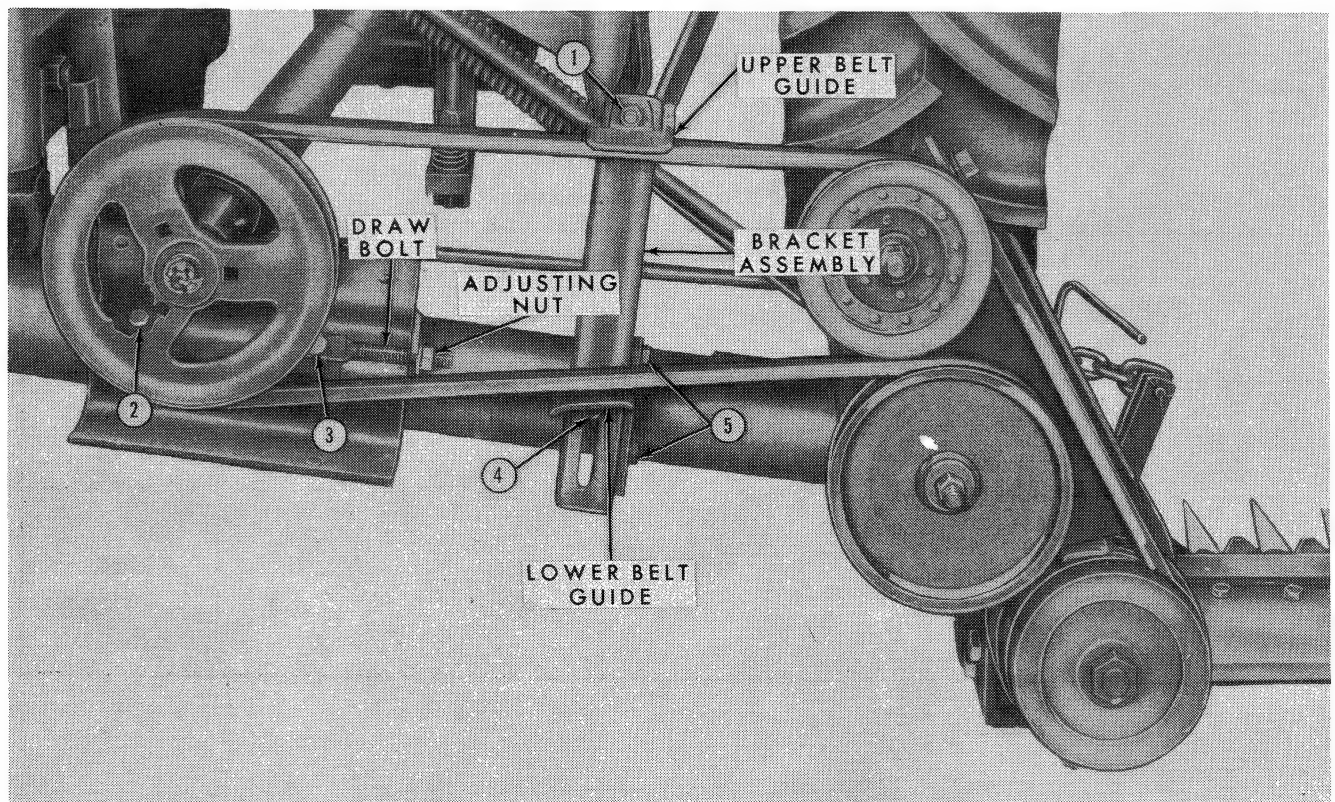

Figure 17
1. Loosen the nuts on bolts (2) and (3), Figure 17.
2. Turn the adjusting nut on the draw bolt, Figure 17, until the proper tension is obtained.
3. Tighten the nuts on bolts (2) and (3).
5. Secure the lower guide 1/8-inch from the belt and parallel to the belt with the bolt (4).
The belt guides, Figure 17, must be properly adjusted to prevent the belt from "slapping" or binding on the guides. To adjust, proceed as follows: